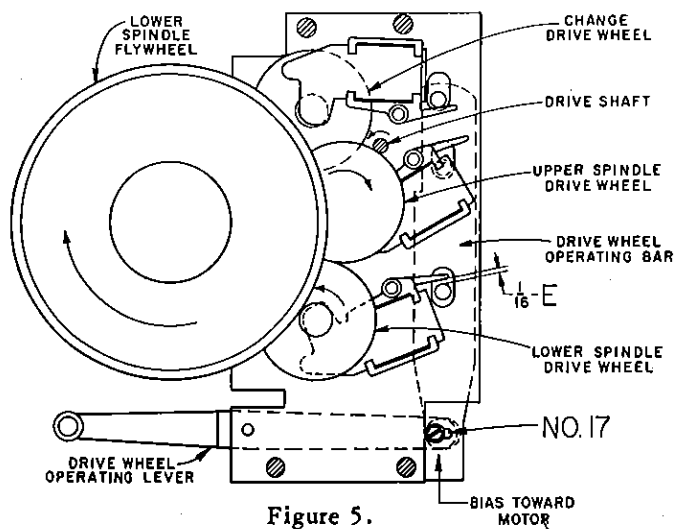

Figure 5.
- A. With the mechanism in the top side play position, adjust the eccentric screw No. 17 for $1/16$ inch clearance between the drive bar pin and the lower spindle drive wheel lever as shown at E, *Figure 5*. While making this adjustment, bias the end of the operating lever toward the motor so the operating lever roller is bearing against its cam.